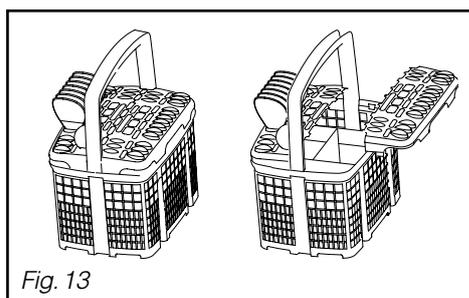

Fig. 13
**Movable grills are available if you wish to load your cutlery in an orderly manner** (Fig. 13).